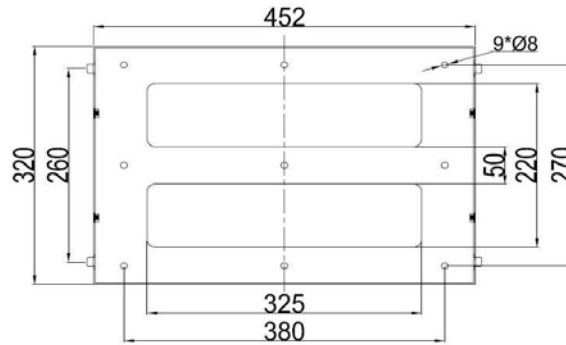

Fig.4 The size of For SUNTREE 5000TL/6000TL/8000TL
- Step1: Drill 9 holes as illustrated in the Fig.4
- Step2: Fix the mounting frame as illustrated in the Fig.4 by the screws, then, hang the inverter on the mounting frame.